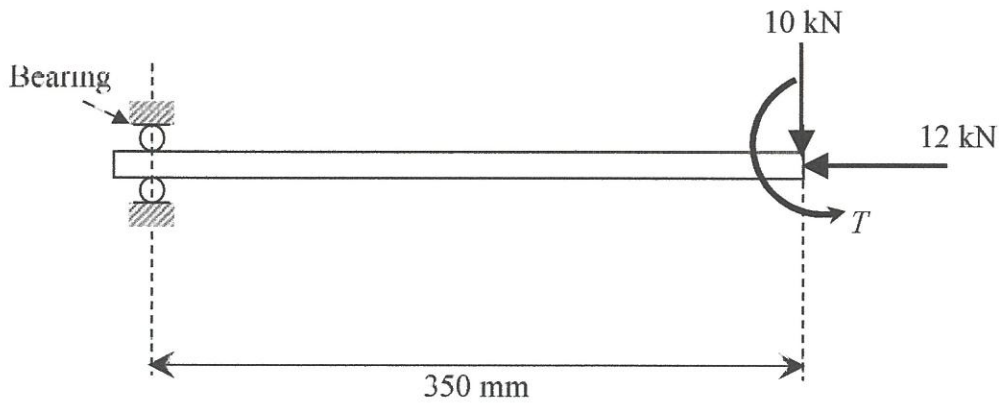

Figure Q6
- (c) A horizontal shaft of 75 mm in diameter and 350 mm in length projects from a bearing as shown in **Figure Q6**. The vertical load of 10 kN, horizontal compression load of 12 kN and torque, T Nm are applied at the free end of the shaft. If the safe stress for the material is 145 MPa and assuming the Poisson's ratio is 0.3. Differentiate the value of torque, T by using Von Mises Theory & Tresca Theory and explain briefly which value should be used.